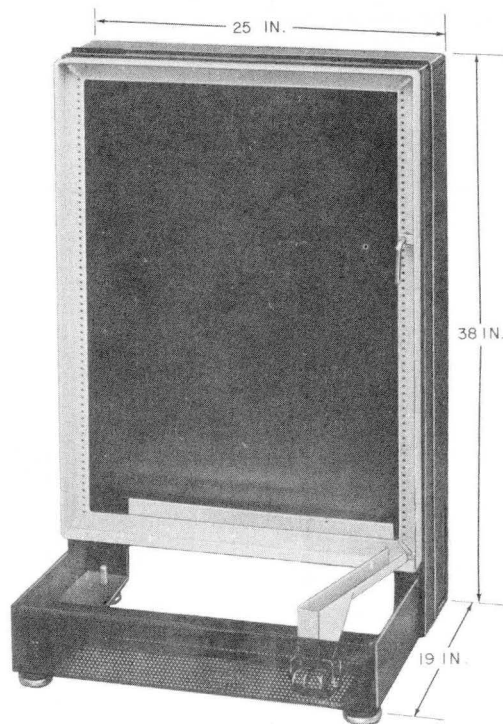

Fig. 18—34C Cabinet ♦
4.09 The 34C cabinet (Fig. 18) is a general use, floor-standing unit consisting of a steel bottom and back and a hinged carrier gate. A caster supports the weight of the gate when it is open. Glides or optional casters (D-180700 Kit of Parts) are attached to the bottom corners of the cabinet for easy moving. The back provides a mounting surface for 100-, 101-, and 102-type connecting units; the gate provides a mounting space for a 2-type power panel and one or two 702- or 703-type panels. With a 154A cover installed, the cabinet is 20 inches wide, 19.6 inches deep, and 39.4 inches high overall. ♦